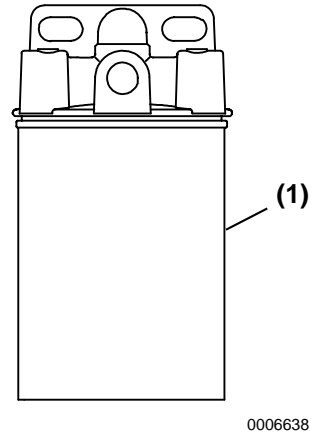

Figure 5
3. Unscrew and remove filter cartridge **(Figure 5, (1))**.